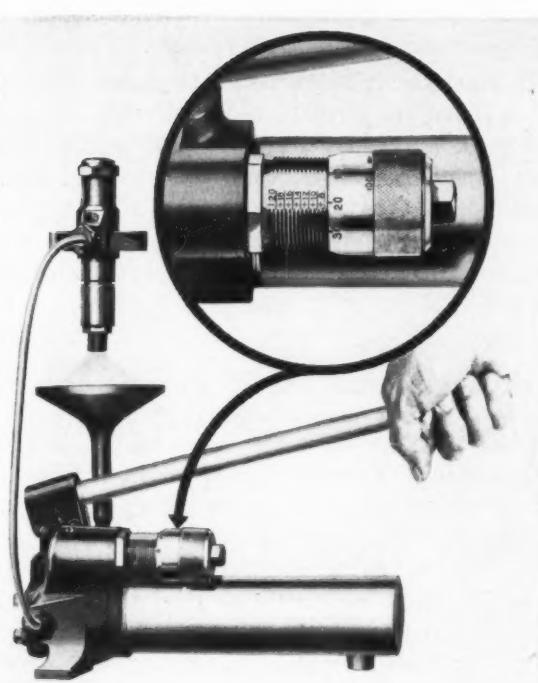

Fig. 3—Adjustable pressure oil pumping device simplifies testing of diesel engine nozzles
**D**EVELOPED in the Fuel Research laboratories of the Waukesha Motor Co., the apparatus depicted by Fig. 3, and on which patent is pending, permits accurate test and adjustment of any standard make of diesel injection nozzle. The hydraulic pump is operated by a hand lever and fuel oil is contained in a horizontal cylinder below the pump, this reservoir holding approximately one pint. From it the fuel oil—same as used in the engine—is drawn through a filter into the pump. It then is forced through the short length of high pressure injection tubing and is discharged from the nozzle being tested, into the